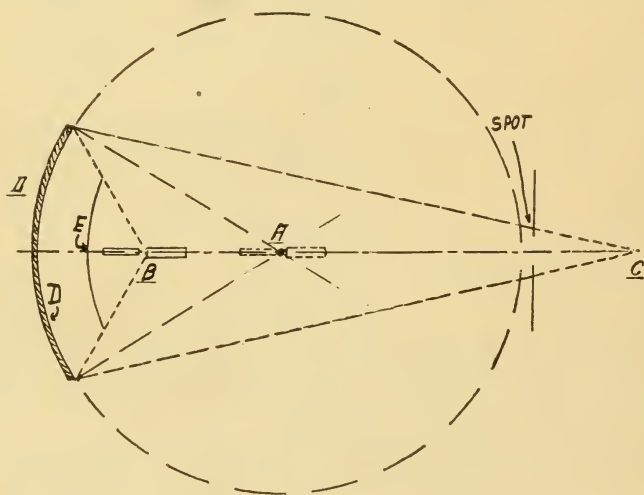

FIGURE 47
lamps. Fig. 47 shows a curved mirror and projector aperture, with the light source AB in two positions. The mirror being spherical, its curvature corresponds exactly to that of the broken line curve, the center of which is at A.
(147) It is evident that if light source A, in Fig. 47, was moved closer to the mirror, to B, the angles of incidence and reflection would be so altered that the beam would no longer focus at C, but much further back. It is this action that explains the reduction of enlargement of the spot diameter as the light source is moved nearer to or further away from the mirror.